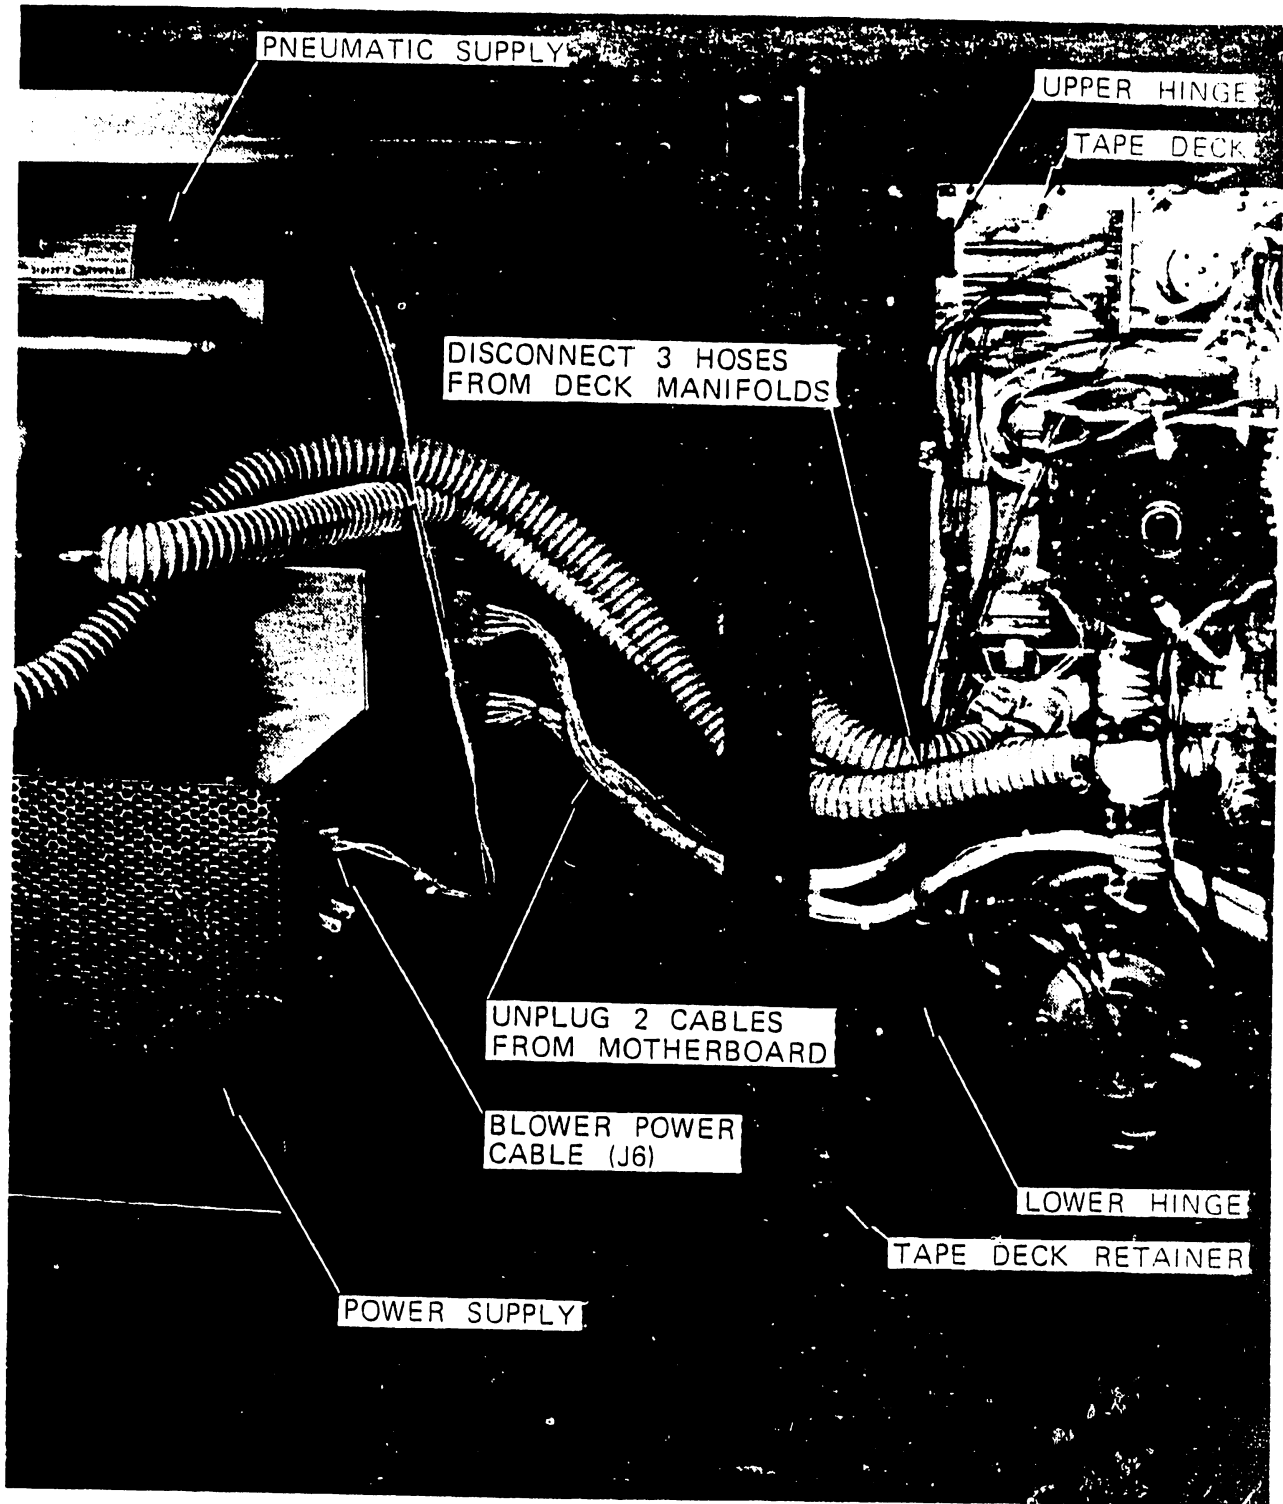

Figure 2-4. Tape Drive Removal From Shipping Rack
2.7.2 Rack-Mount Ref. Figure 2-4